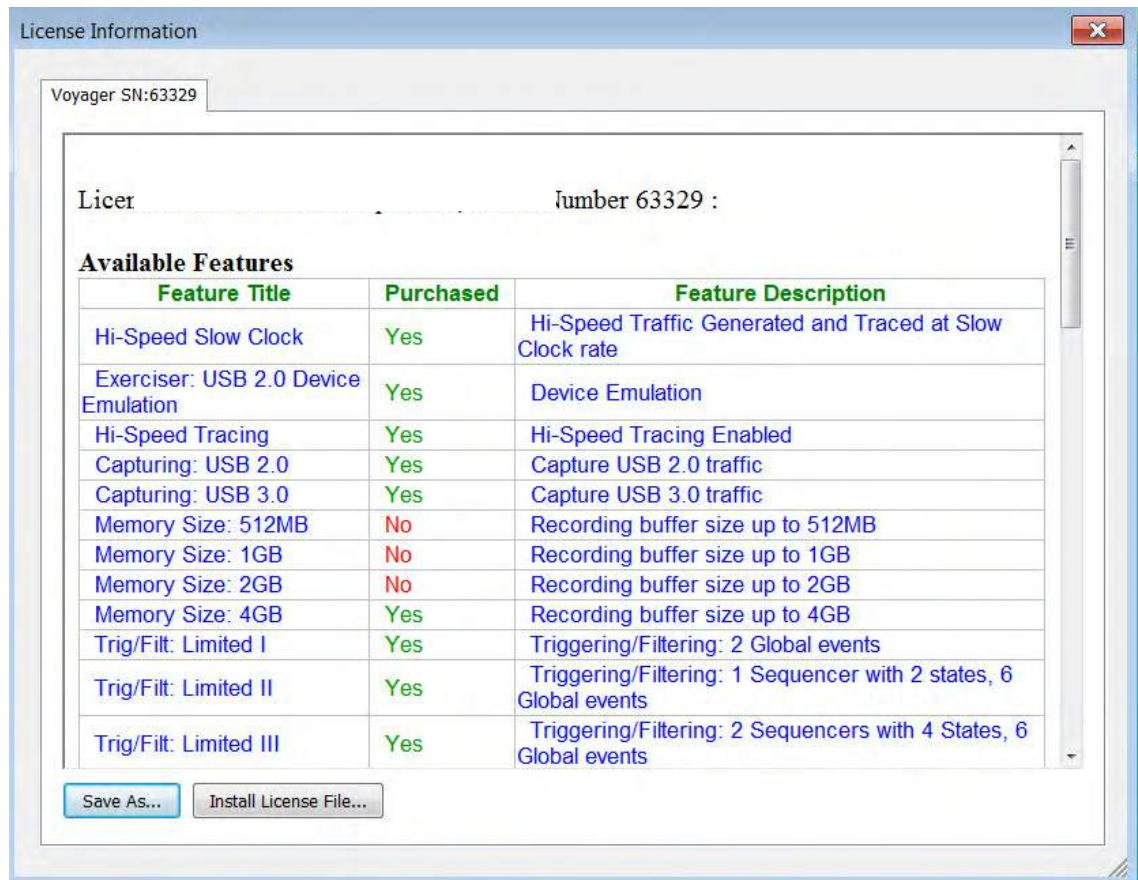

Figure 13.7: License Information Dialog
1. From the Help menu, select **Display License Information** to display the License Information Dialog (see Figure 13.7 on page 574).